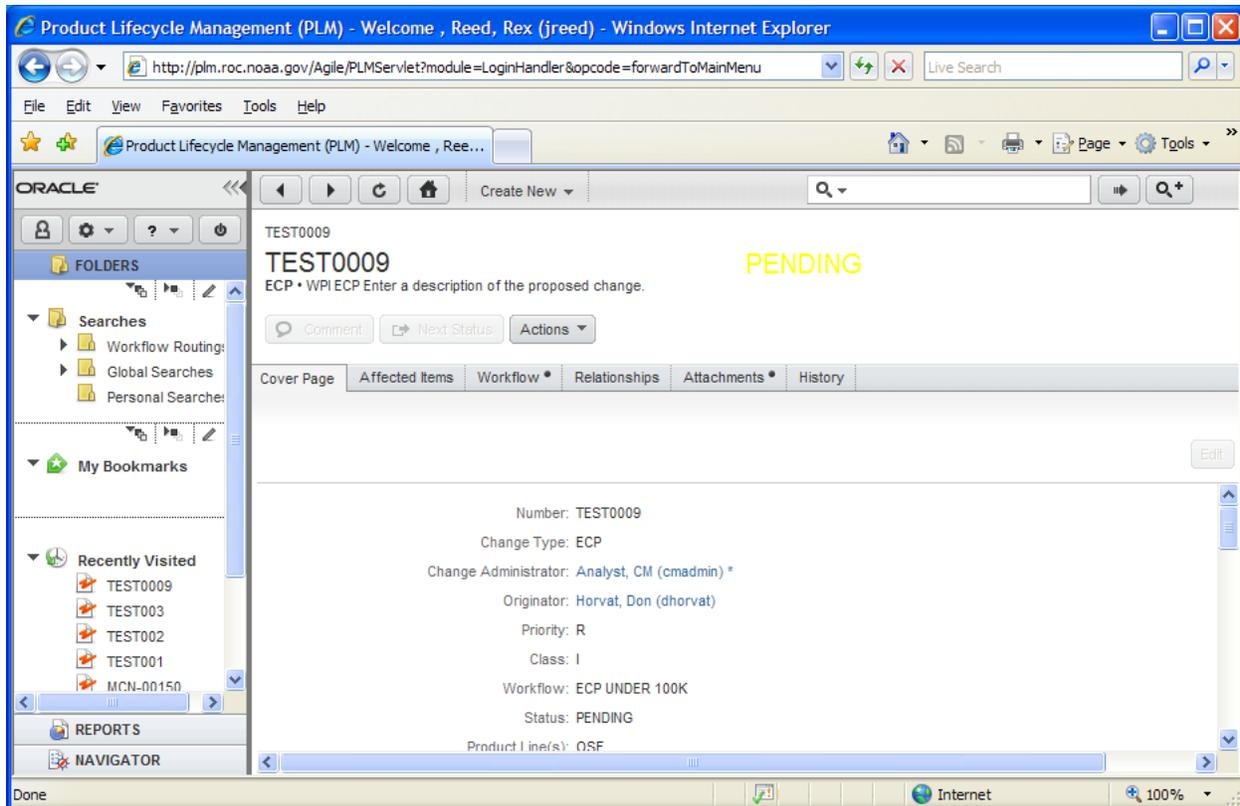

Figure 37: Agile ECP returned to Pending status.
- c. The ECP will automatically return to **Pending** status (Figure 37).